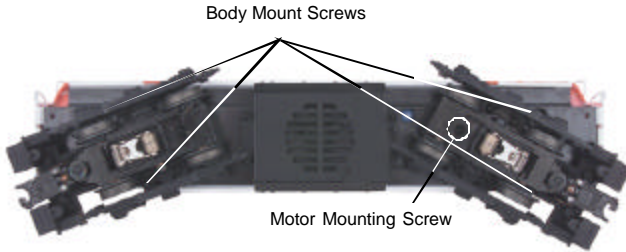

Figure 3: Body Removal Screw Locations
1. To access the gear box, remove the cab from the chassis by unscrewing the chassis screws as seen in Figure 3 and lifting the cab from the chassis.
2. Once the cab is removed, remove the trucks by unscrewing the black Phillips motor mount screw located on the underside of the drive trucks (see Fig. 3).
First, remove the trucks from the chassis by unscrewing the body mounting screws as noted in Figure 3. Next, remove the trucks from the chassis by unscrewing the truck mounting screw also noted in Figure 3. Finally, turn the removed truck over and locate and remove the truckside screws to gain access to the drive wheel traction tires behind the trucksides.